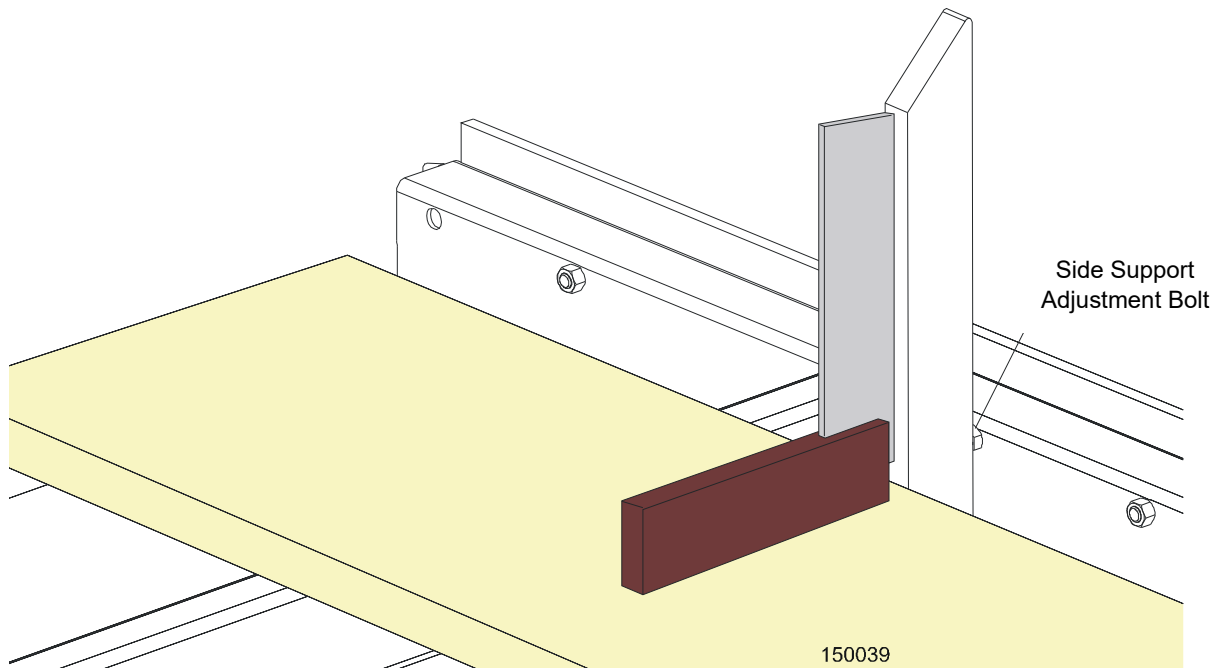

FIG. 6-15
See figure 6-15.
5. The side support should be 90° to the bed rails. If it does not, use the adjustment bolt shown on the figure 6.15 to adjust the side support. Turn the adjustment bolt counterclockwise to tilt the top of the side support forward.